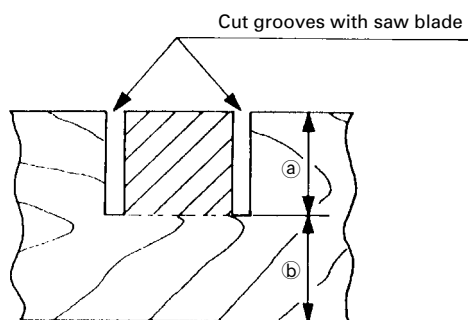

Fig. 37
Grooves in the workpiece can be cut as indicated in Fig. 37 by adjusting the 8mm depth adjustment bolt.
- (1) Loosen the 8mm wing nut and turn the 8mm depth adjustment bolt by hand.
- (2) Adjust to the desired cutting depth by setting the distance between the saw blade and the surface of the base (see ⑥ in Fig. 37).
- (3) The 8mm wing nut must be properly tightened after the adjustment has been completed.